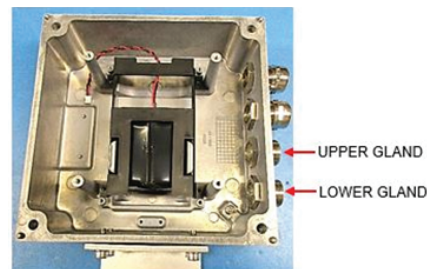

Figure 7: M5000 amplifier housing
5. Remove the bottom two (2) cable glands on the amplifier and remove the plugs from the cable glands. See Figure 7.
6. Replace the upper cable gland dome nut. See Figure 7.
8. Replace the lower cable gland dome nut. See Figure 7.